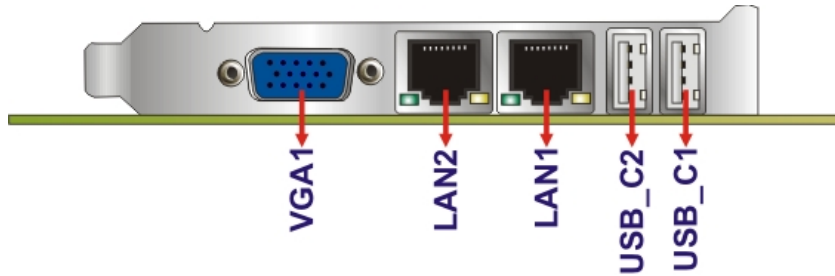

Figure 3-23: External Peripheral Interface Connector
- CN Location:** See **Figure 3-23**
CN Location: See **Figure 3-23**